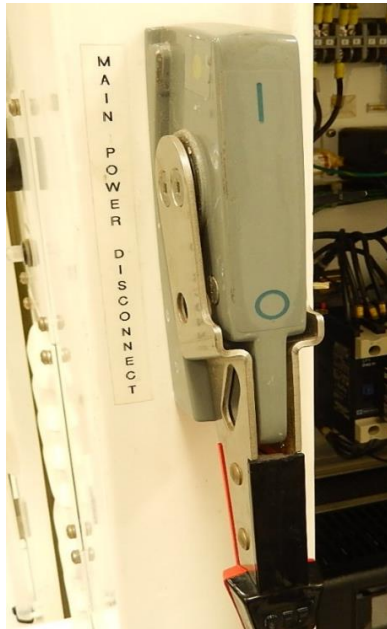

Figure 1: CB1 Switched Off
6.1 **Type 1 Safety Requirement: Switch Off** incoming power to the tool & switch CB1 (Main Power Disconnect) to the off position. See *Figure 1*.